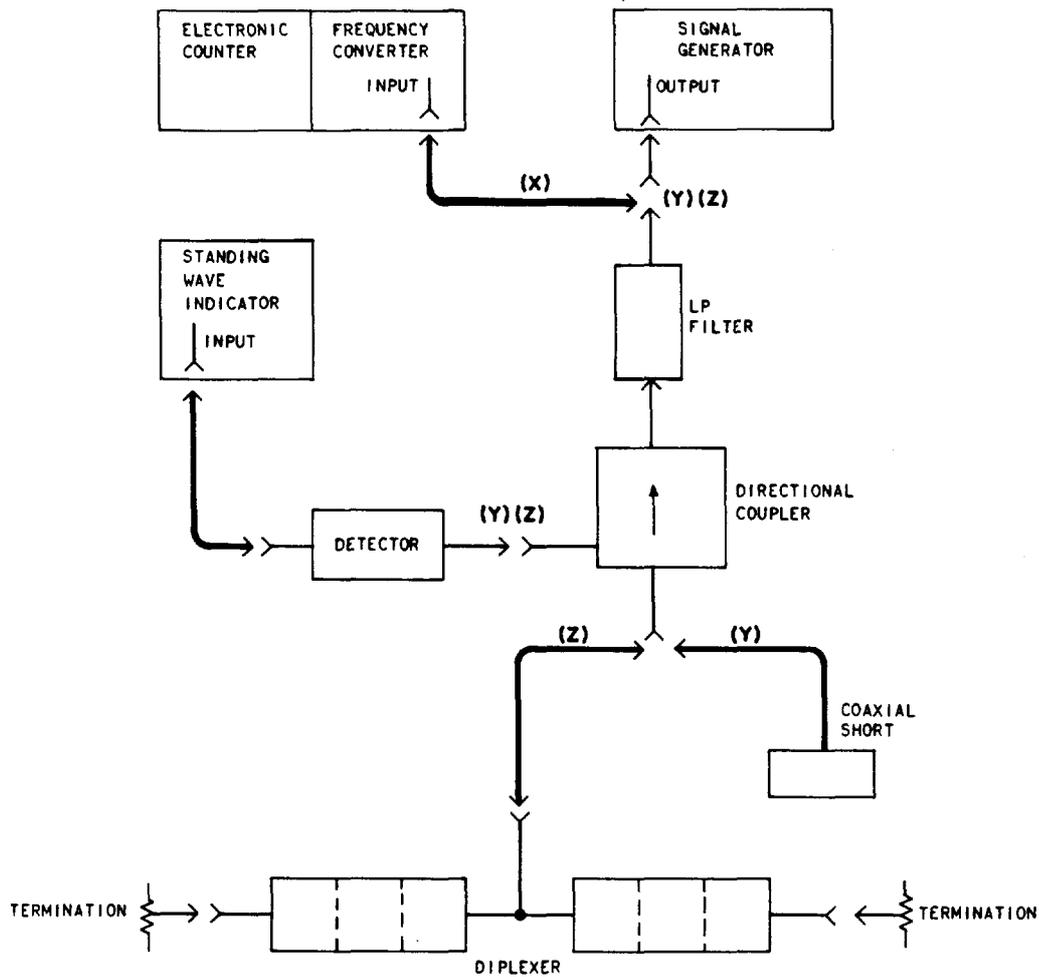

Fig. 1—Measurement of Diplexer-Preselector Return Loss—Test Setup Diagram
4	Arrange the test equipment as shown in option (Y), (Fig. 1). Use the least possible number of connections and transitions.